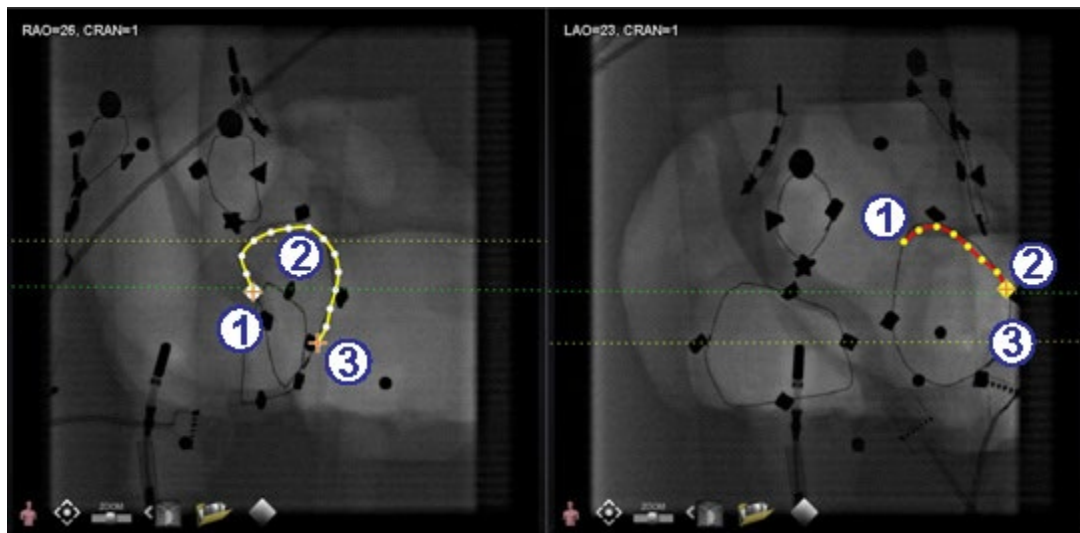

Figure 126. On complementary image, last point drawn is distal point
As the user marks a vessel on a complementary fluoro (as on the LAO fluoro in **Figure 126**), the last point drawn is the distal point. The yellow dotted line in the original fluoro (RAO below) indicates the distal point of the complementary fluoro.
Distal Point in Progress Guide (Figure 126)
- ① Proximal anchor point
- ② Distal point of the active drawing (LAO in **Figure 126**)
- ③ Distal anchor point of the original drawing (RAO in **Figure 126**)